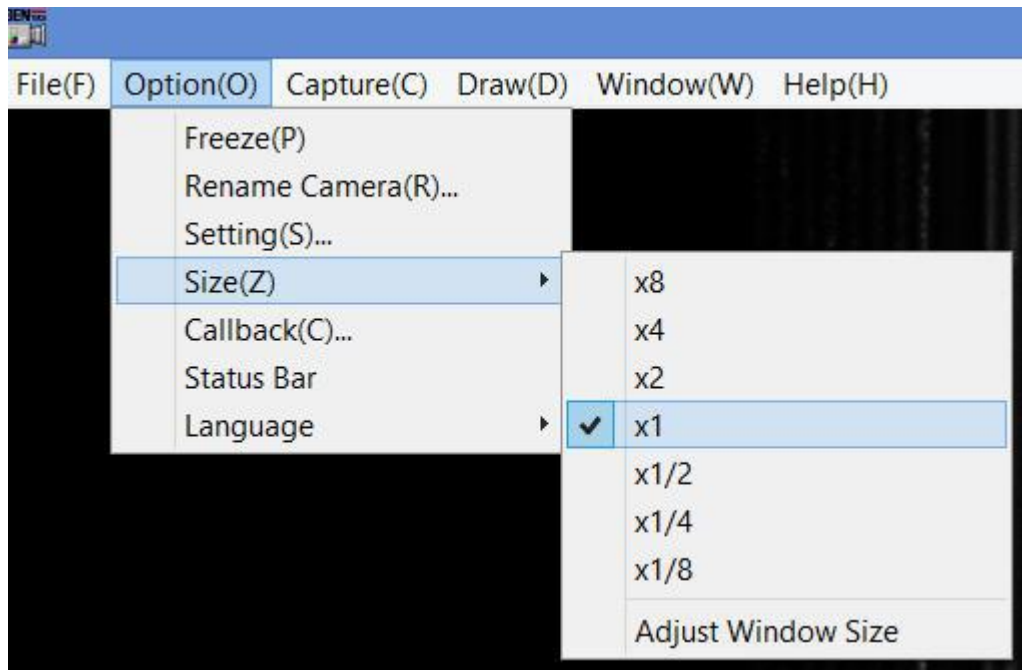

Figure 47 StCamSware GUI
46. Go to StCamSware GUI ->Option and Select Size (Z) “x1” as below Figure 47.